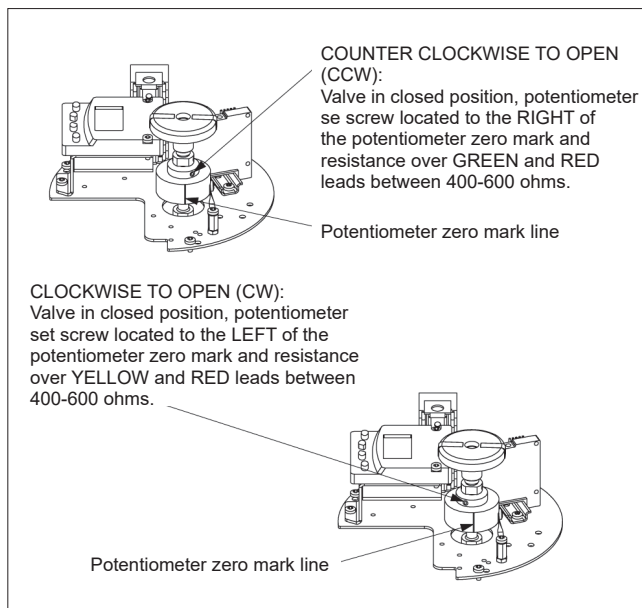

Fig. 49. Potentiometer operation.
- The potentiometer cable can now be connected back to the transmitter board terminal pins. The positioning of the terminal plug is done according to valve operation orientation (see Fig. 49). The plug must always be aligned to one end or the other of the five pin terminal on the transmitter board.